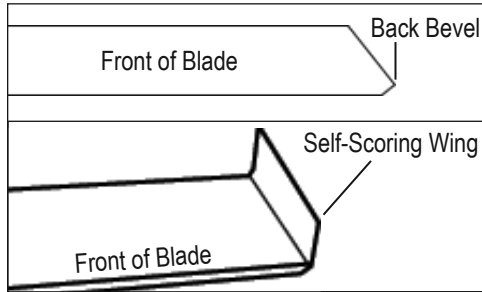

FIG. 5
Dull blades greatly reduce cutting ability. Sharpen or replace as needed. In use, blades develop a back-bevel. When sharpening, blade will not be completely sharp until all back-bevel is gone (Figure 5).
**Self-Scoring Blade Sharpening:** It is important to keep the "wings" on a self-scoring blade sharp. Use a file on the wing edge (Figure 5). Sharpen the flat part of the blade, the same way as described above.